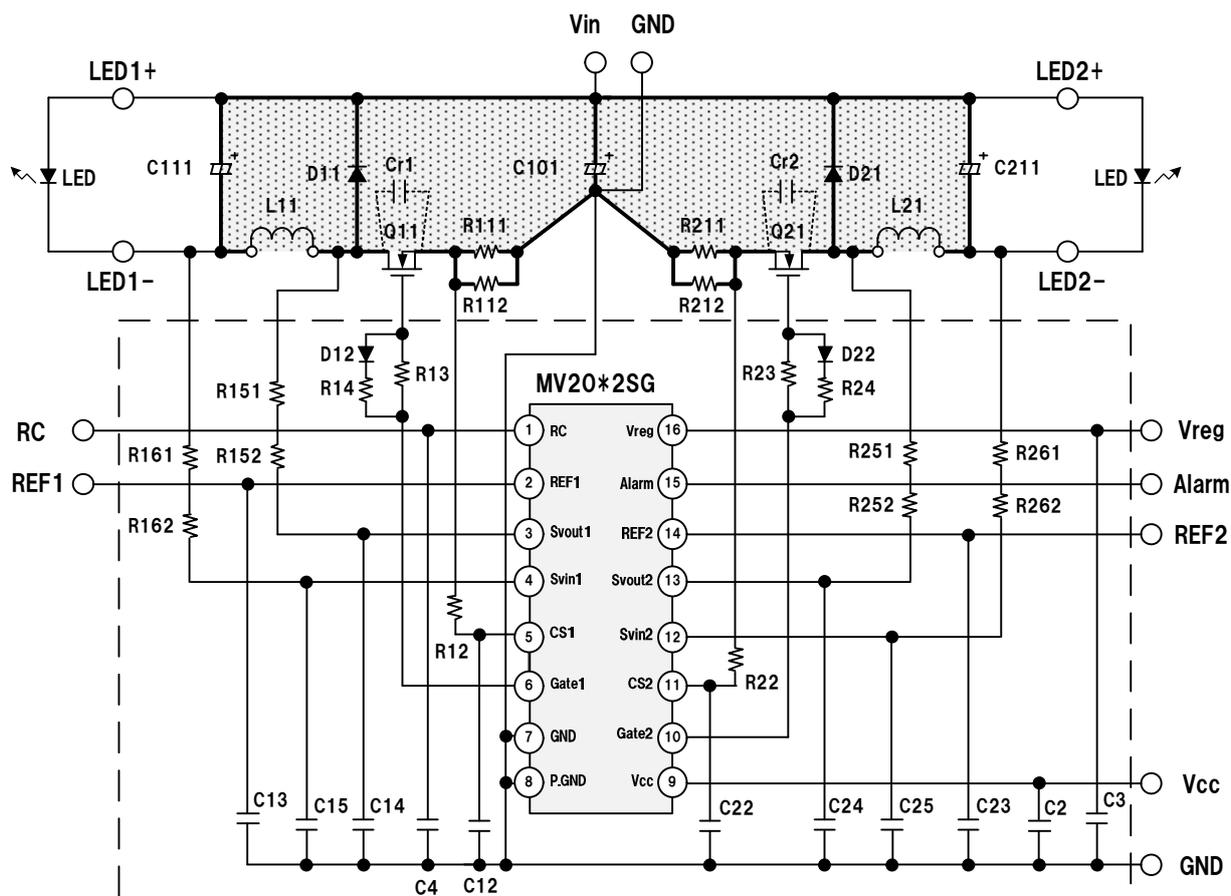

Figure 15 Circuit diagram accounting for pattern design
Figure 15 shows the same circuit as in Figure 5, rearranged to account for pattern design. The following four points must be carefully considered during pattern design. In particular, as described in item 1, each signal line should be wired as far as possible from the main path or gate lines of other channels to prevent turn-off noise from affecting the other channel.
2. The shaded area indicates the main circuit through which the switching current flows. Keep the wiring as short as possible to minimize the area occupied. Route the current paths for channels 1 and 2 separately, as shown in Figure 15.